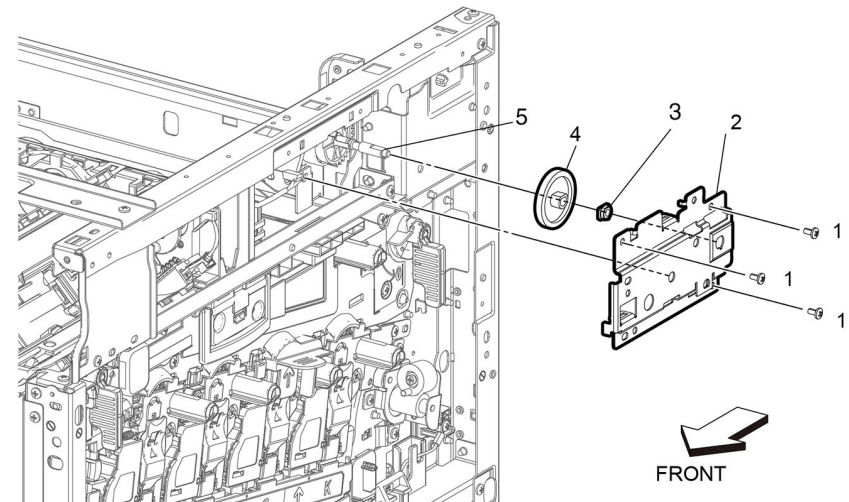

Figure 1 Nip retract shaft assembly removal
23. Remove the nip retract shaft assembly, Figure 1:
- a. Remove three screws (1), the nip retract bracket (2) and bearing (3).
- b. Pull out the retraction shaft gear (4) from the retract shaft (5).